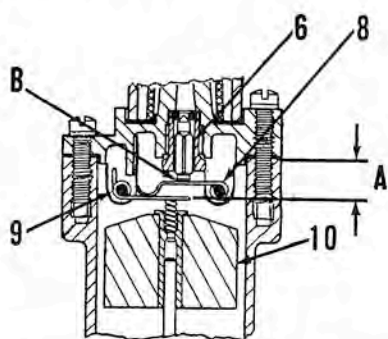

Fig. M47—Schematic view of float mechanism showing method of adjustment. Refer to text.
The recommended fuel level is approximately $\frac{1}{16}$ -inch below gasket surface of float bowl. To adjust the float, remove bowl cover (5) and refer to Fig. M47. Invert the cover and, with inlet needle (6) closed, measure the distance between primary lever (9) and gasket surface of bowl cover as shown at (A). This distance should be $\frac{1}{16}$ -inch; if it is not, bend the curved tang on secondary lever (8) until correct measurement is obtained. After adjustment is made, bend the vertical tang on primary lever (9) to allow a maximum clearance (B) between the secondary lever (8) and inlet needle (6). The contact spring located in center of float should extend $\frac{5}{64}$ -inch above top of float (10). Check to see that spring has not been stretched or damaged.